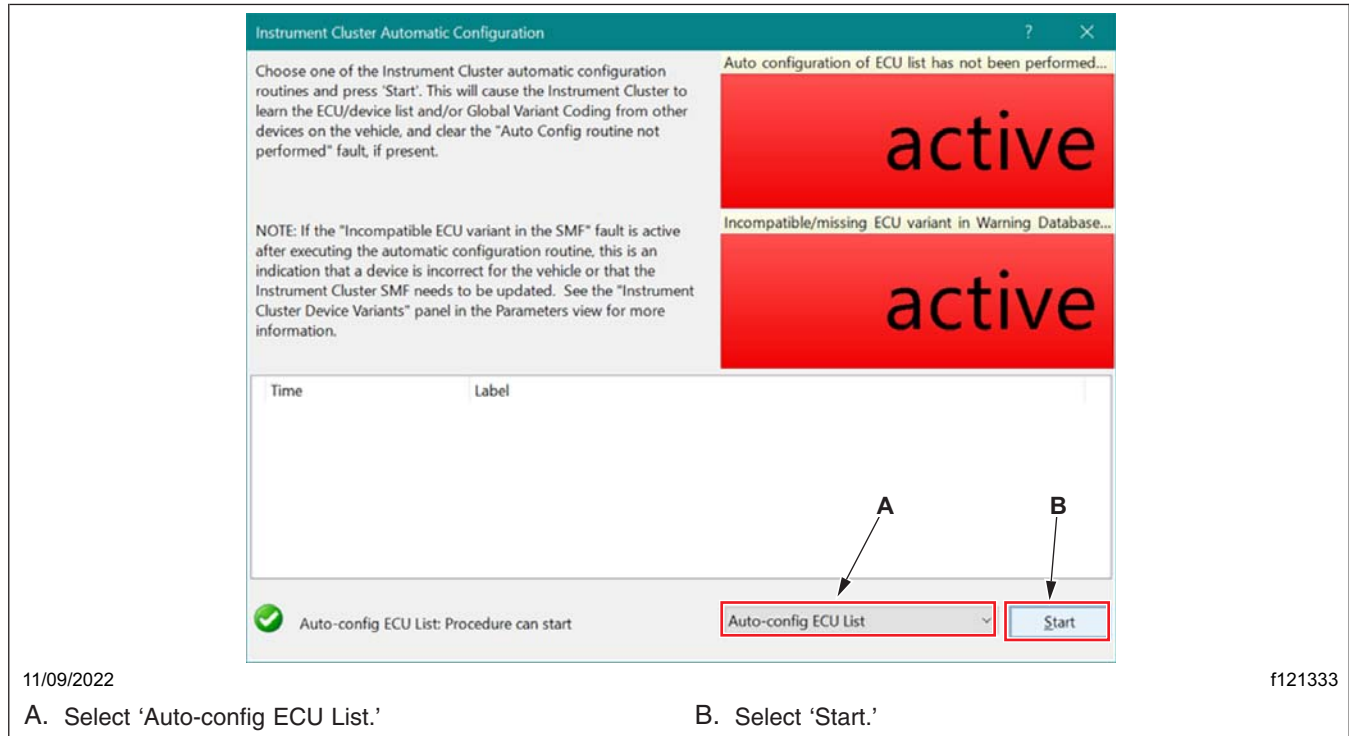

Fig. 15, Instrument Cluster Automatic Configuration Window
25. Verify that 'Auto-config ECU List' is selected. Select 'Start' to begin the automatic configuration of the instrument cluster. See Fig. 15.